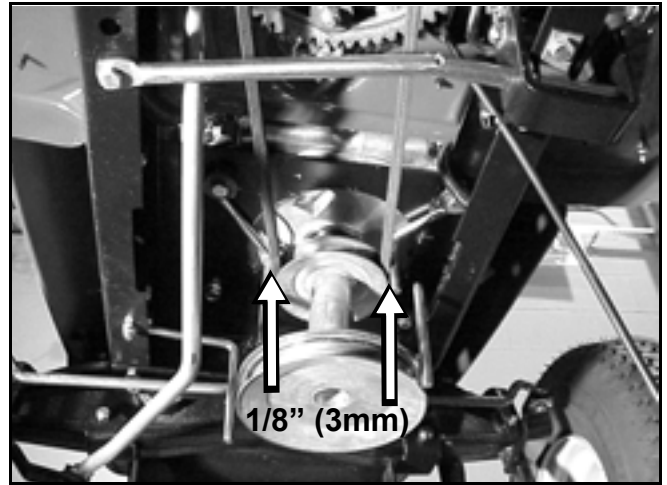

Figure 117
11. Adjust and tighten both the right and left engine belt guides. They should be adjusted so they are within 1/8" (3mm) of the engine pulley (Figure 117).